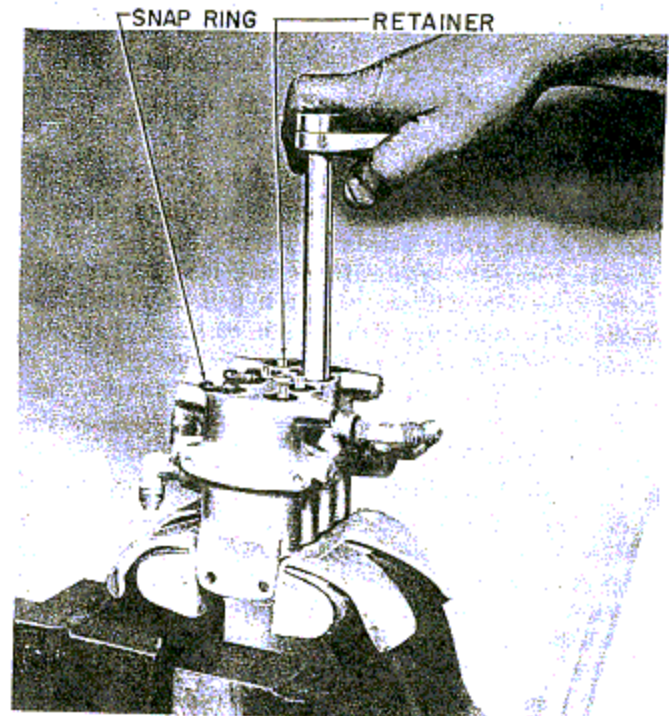

Figure 233—Removing Snap Ring from Retainer
6. Release the valve body from the vise, turn upside down, and replace it in the vise. Next, remove the eight snap rings locking the retainers in the valve body. Use either a snap ring wrench or a small pair of pliers. (See figure 233.)